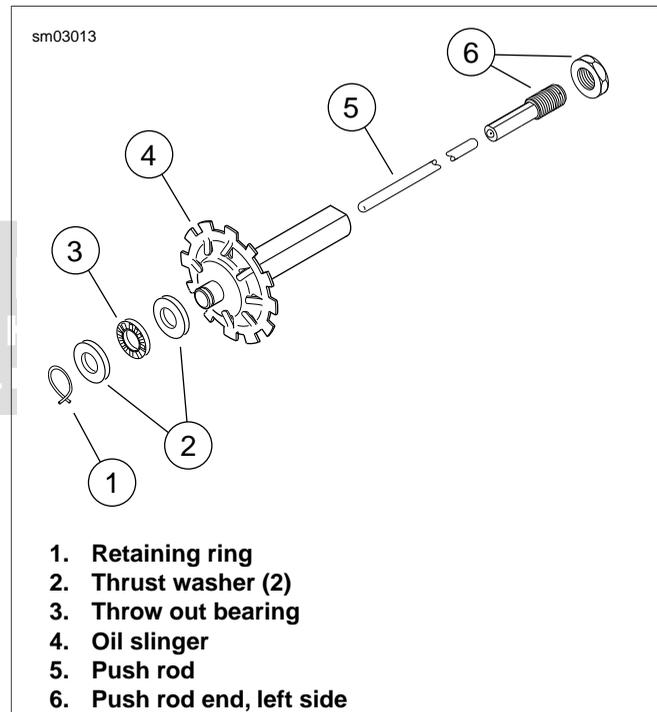

Figure 7-34. Push Rod Assembly
8. See Figure 7-34. Install push rod assembly (items 2-5) in mainshaft hole. Secure with **new** retaining ring (1) if removed.